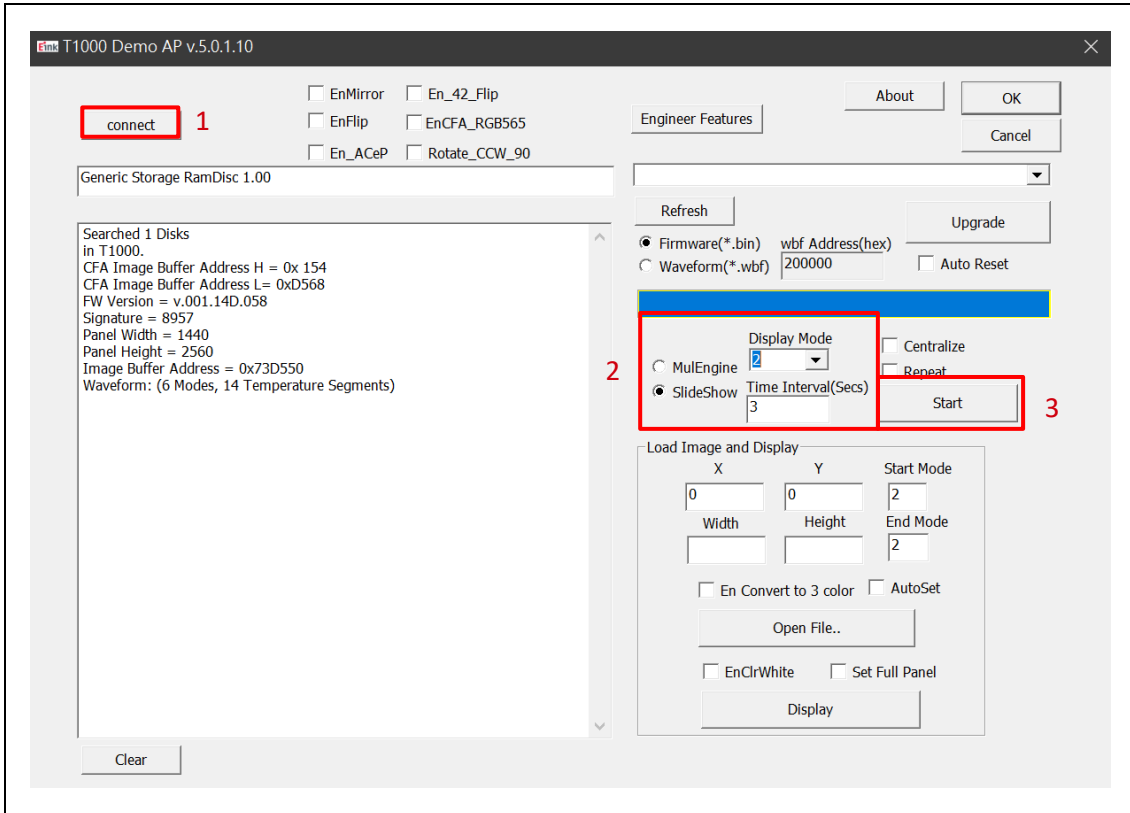

Figure 3.6
- Execute T1000 Demo AP(refer to Figure 3.6)